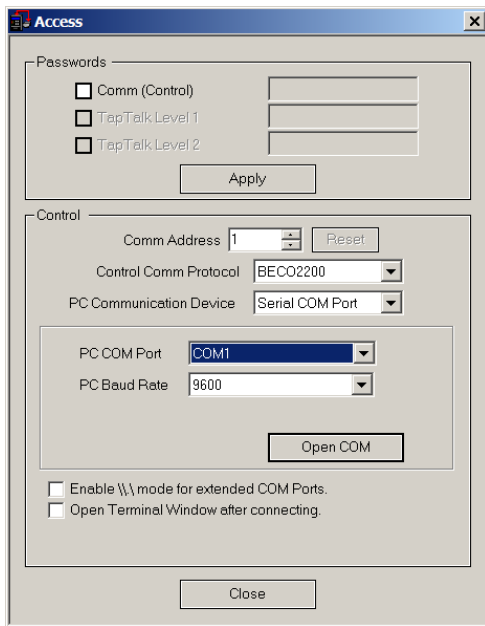

Figure 9-10 Communication Access (Serial) Dialog
1. Start the TapTalk program, TapTalk will display the **Communication Access (Serial)** dialog screen (Figure 9-10).
To address additional controls at the same location (Not applicable to Ethernet connections), the user must reset the control address from the Communication Access Screen (Figure 9-10). When RESET is selected, TapTalk will respond with a confirming dialog screen, shown below. As long as communication to the remote location is maintained, the user can switch between controls.